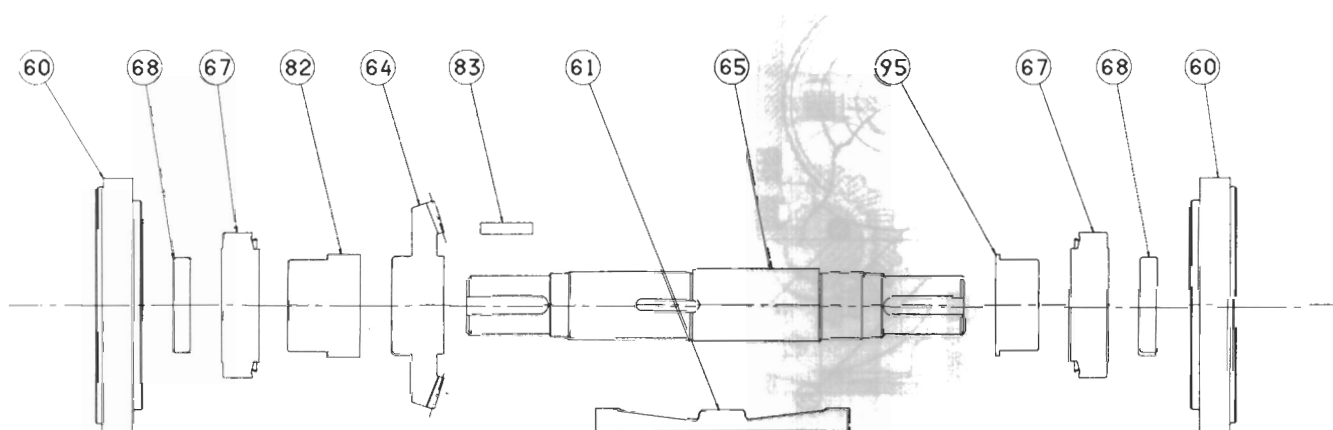

Figure 12
9. Remove cap screws (76) securing end bells (60) to right angle box (61). See Figure 12. Remove shims (85). Slide out shaft (65), spiral bevel set (64), cross shaft hubs (82, 95) roller bearing (67) and seal (68).